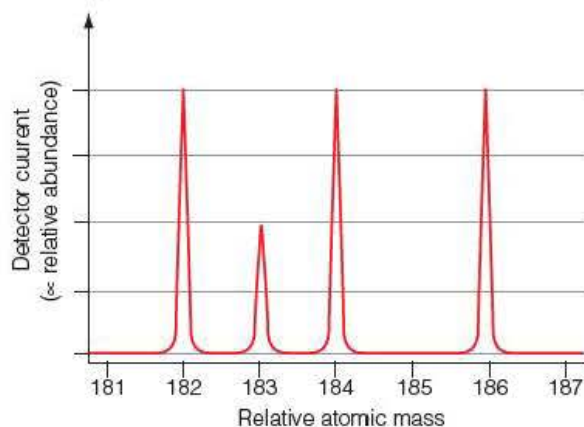

Figure 3.4 ◀
- **Detection** – detect the charged ions as a tiny current and feed the signal to a computer. By increasing the strength of the magnetic field, ions of increasing mass are detected and a mass spectrum similar to that shown in Figure 3.4 can be printed out. By first using a reference compound with a known structure and relative molecular mass, the computer can print a scale on the mass spectrum.
- 3 Look carefully at Figure 3.4.
Each of the four peaks on the mass spectrum of tungsten in Figure 3.4 represents a tungsten ion of different mass, and the heights of the peaks give the proportions of the ions present.
Mass spectrometer traces, like that in Figure 3.4, show that tungsten and most other elements contain atoms that are not exactly alike. When atoms of these elements are ionised in a mass spectrometer, the beam of ions separates into two or more paths producing two or more peaks on the mass spectrum. This shows that the atoms from which the ions formed must have different masses. These atoms of the same element with different masses are called isotopes.
- Look again at Figure 3.4.